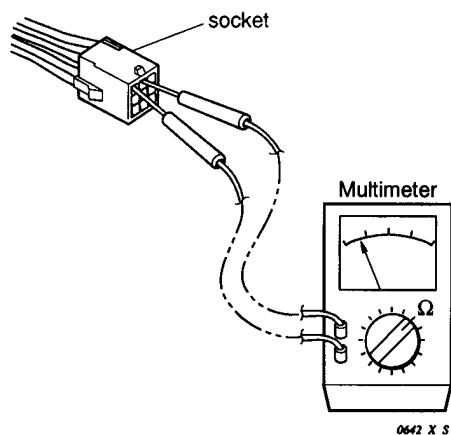

Fig. 9
(2) Checking the Protective Devices
- Then check continuity among plug's (and/or socket's) terminal as in **Fig. 9**.